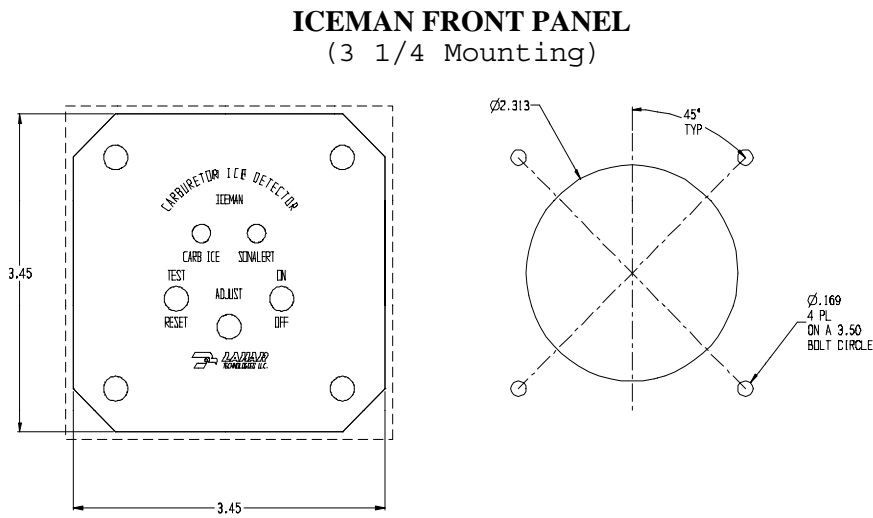

Figure 4
- a1) (3" X 2 1/2") for Model Icesman 3(see Fig. 4) is to be made and deburred, or